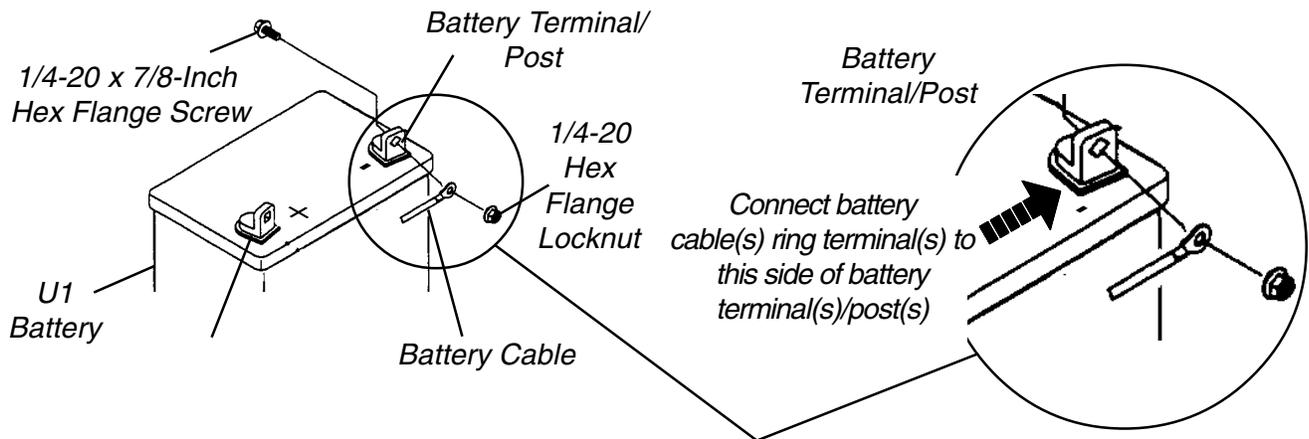

FIGURE 7 - CONNECTING BATTERY CABLE(S) TO BATTERY(IES)
SECTION F - CONNECTING BATTERY CABLE(S) TO BATTERY(IES) (FIGURE 7)
When connecting the battery cables to the battery(ies), the battery cable(s) **MUST** be connected to the battery terminal(s)/post(s) as shown in FIGURE 7 (below), otherwise damage to the battery cable(s) may result when sliding battery terminal cap(s) down onto battery terminal/posts.
2. Use one (1) 1/4-20 x 7/8-inch hex flange screw and one (1) 1/4-20 hex flange locknut to secure the battery cables to the battery terminals/posts. Securely tighten. (FIGURE 7)